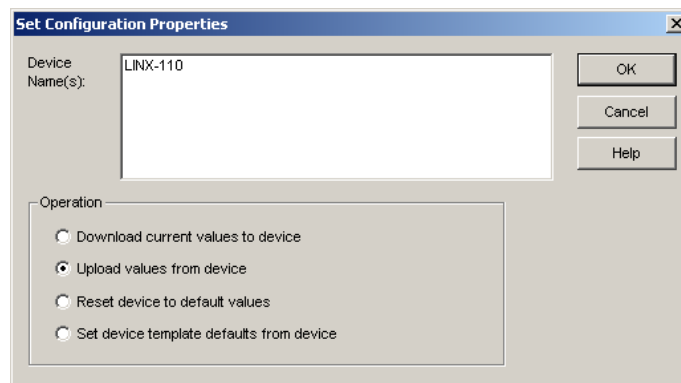

Figure 194: Set Configuration Properties in LonMaker TE.
2. This opens the dialog shown in Figure 194.